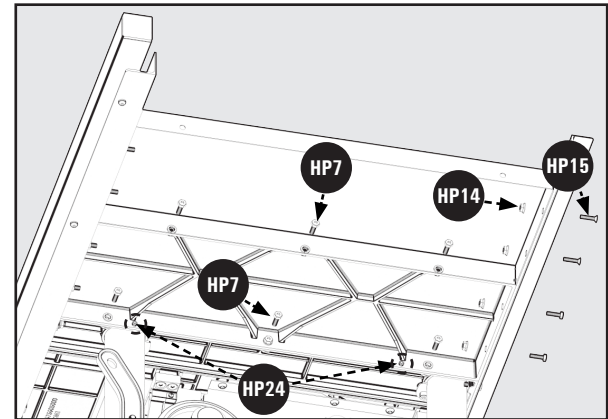

Figure 9
6. Turn the two wings fastened together over and fasten them to side of the saw table using three 5/16-18 x 7/8 inch hex head screws with Split Lock Washers **HP7**. See Figure 9.
NOTE: There are four 5/16-18 Set Screws **HP24** for the cast iron extension wing for the 36-5100 T2. Two Set Screws for each cast iron Extension Wing. The set screws are used to adjust the level. See Figure 9.
NOTE: There are four 5/16-18 Set Screws (HP24) for the cast iron extension wings for the 36-5100 T2. Two Set Screws for each cast iron Extension Wing. The set screws are used to adjust the level. See Figure 9.